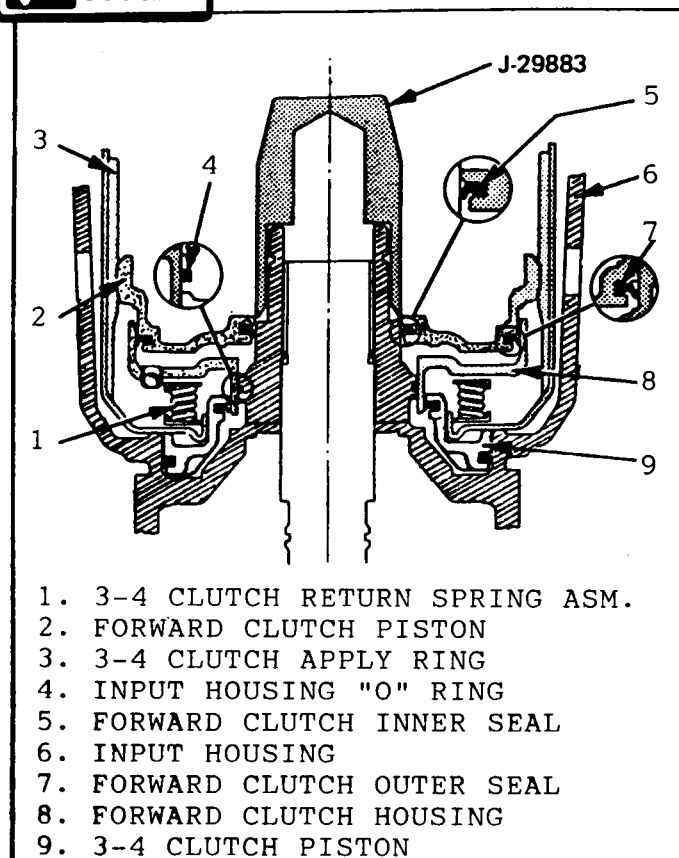

Figure 77
8. Install the inner and outer 3-4 clutch lip seals on the 3-4 clutch piston. Seal lips must face the direction shown in Figure 77.
9. Lubricate the seals with petro-latum, and install the 3-4 clutch piston into the input housing as shown in Figure 77.
2. Install new "O" ring into input housing groove as shown in Figure 77.
5. Install the 3-4 clutch spring assembly on top of the 3-4 clutch apply ring (See Figure 77).
6. Install the forward clutch housing into the input housing as shown in Figure 77.
8. Install the inner and outer lip seals on the forward clutch piston as shown in Figure 77.
9. Install forward clutch piston into forward clutch housing using tool J-29883 as shown in Figure 77.